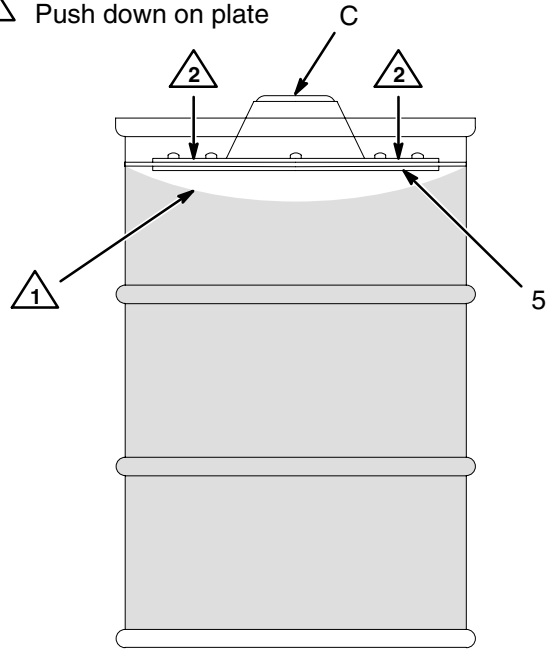

Fig. 2
If using a follow plate (5), remove the fluid container cover. To prevent air from being trapped under the follow plate, scoop grease from the center of the container to the sides, to make the surface concave. Place the follow plate on the grease, and push down on the plate until grease appears at the center opening (C). See Fig. 2.